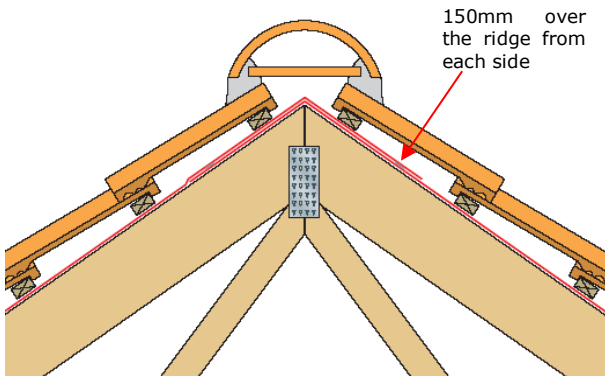

Figure 9 - Sealed cold roof ridge detail
2.4.3.15 At ridge level Tyvek® SUPRO roof underlays should be carried over the ridge with a minimum overlap of 150mm either side to create a 300mm wide double strip (Figure 9).
2.4.6.9 At ridge, lap the Tyvek® SUPRO roof underlay 150mm over the ridge from each side and seal with Tyvek® tape, as shown in Figure 9.